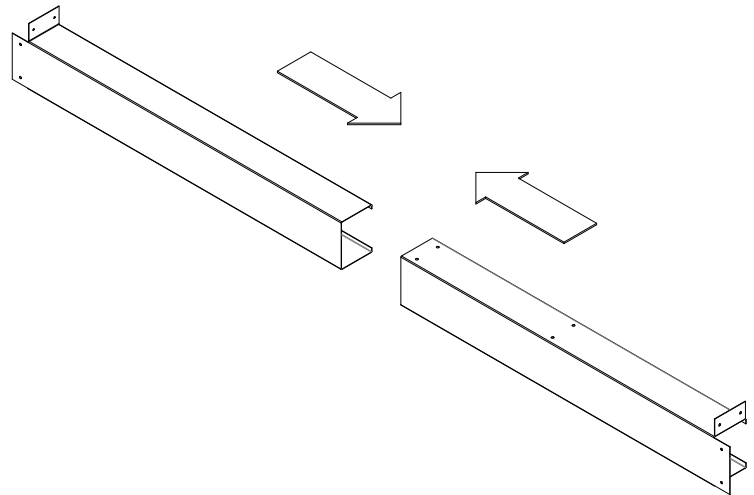

Figure 29: Steel Stud Assembly
- Take the two steel stud pieces and slid them into each other. The flanges of each piece should be at the end of the assembly, as well as facing upwards as shown in Figure 29.